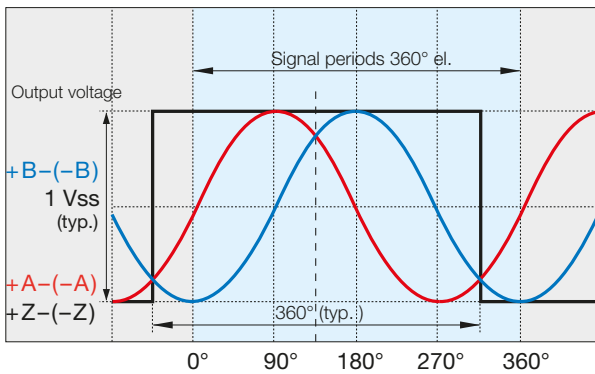

Fig. 6-1: Signals of the sine and cosine sensor, forward movement corresponds to increasing angle
With the analog sine and cosine signals +A (+Sin), -A (-Sin), +B (+Cos) and -B (-Cos) the controller evaluates the relation of the signal amplitudes and, from the signals, interpolates the precise position within a period (Fig. 6-1). For a movement over several periods, the controller also counts the number of periods.
- A pole-periodic reference signal (period = 1 mm, reference signal width = edge distance, Fig. 6-1). If several reference signals must be transferred, an external selection switch must be mounted at the desired reference signal.